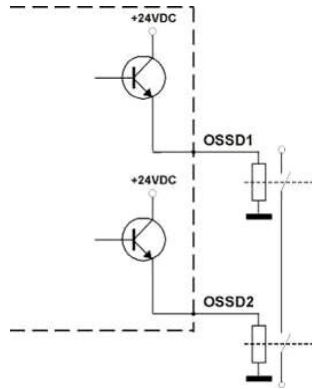

Fig. 18
- The OSSD1 and OSSD2 safety contacts cannot be connected in series or in parallel, but can be used separately (Fig.18). If one of these configurations is erroneously used, the device enters into the output failure condition (see cap.7 “Diagnostic functions”).